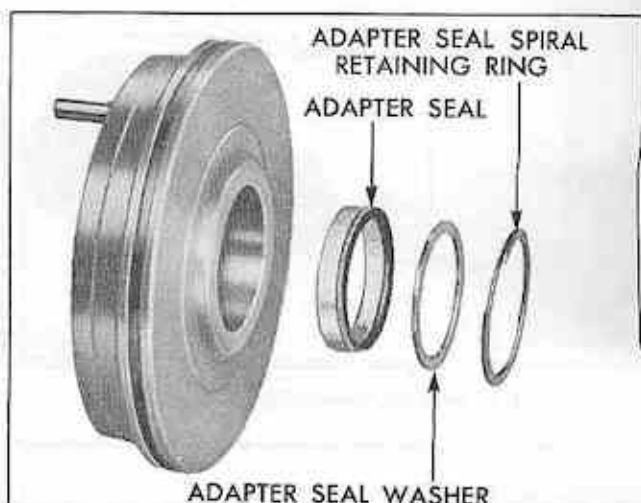

Fig. 65 Adapter Assembly - Exploded View
4. Remove adapter seal spiral retaining ring, adapter seal washer, and adapter seal (Fig. 65). Remove adapter "O" ring seal and thrust bearing centering springs from adapter.